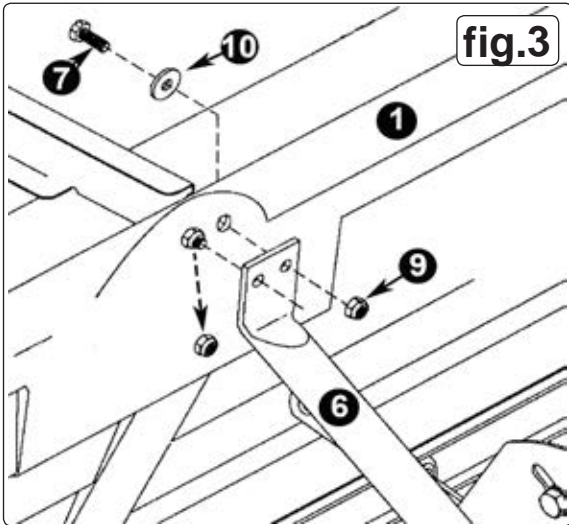

fig.3
- 4.4. Remove the top lock nut from the front of the hopper (1) as shown in figure 3.